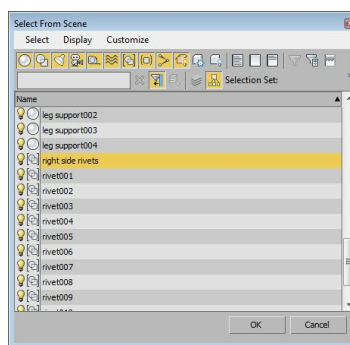

Figure 2-87 The right side rivets group selected in the Select From Scene dialog box
4. In the **Select From Scene** dialog box, select *right side rivets* and choose the **OK** button, refer to Figure 2-87.